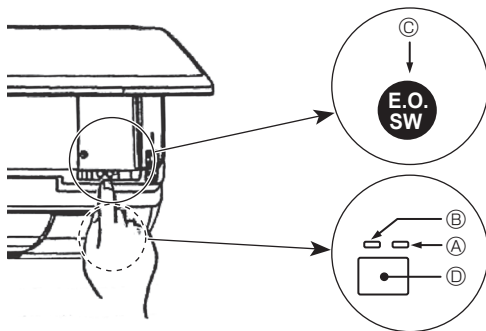

Fig. 5-2
- To operate the cooling mode, press the ❄ button ④ for more than 2 seconds.
- To operate the heating mode, press the 🔥 button ③ for more than 2 seconds.
- To stop operation, press the ❄ button ④ or the 🔥 button ③ for more than 2 seconds.
[Fig. 5-2] ① DEFROST/STAND BY lamp (Orange)
- ② Operation lamp (Green)
- ③ Emergency operation switch (cooling/heating)
- ④ Receiver
- Check "COOL/HEAT" with the operation monitor display. (The orange lamp ① follows this monitor display for 5 seconds after pressing the emergency operation switch.)